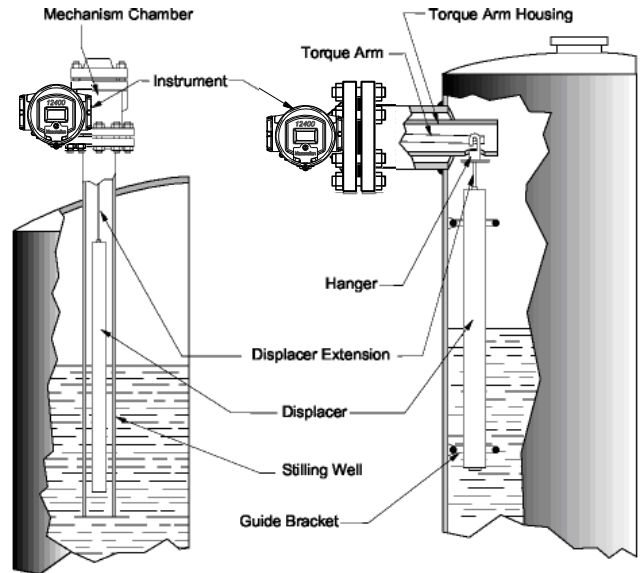

Figure 5
a. Type 12403 Top Flange Mounted Instrument (Figure 5)
4.2.2.2. Stilling well for type 12403 (Figure 5)